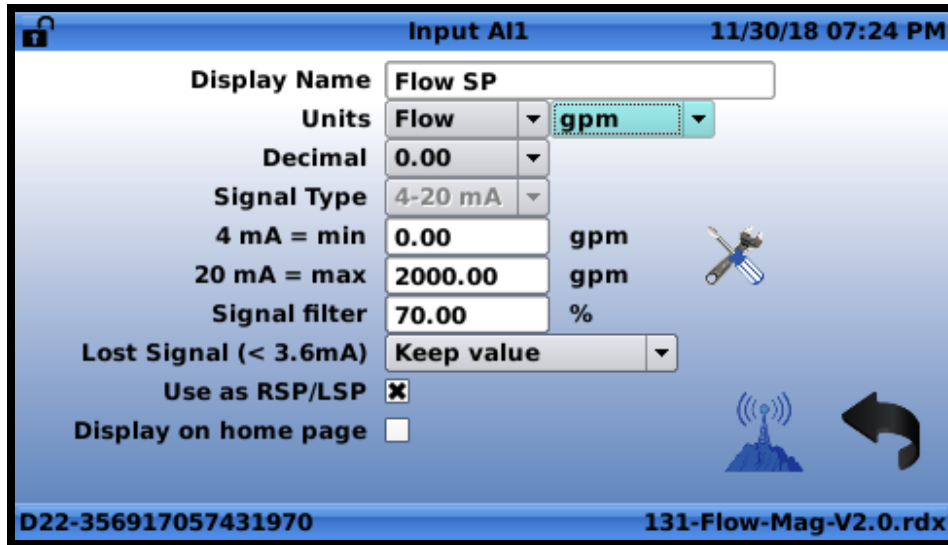

Figure 4.22
- Use the “Up” and “Down” buttons to highlight a drop down field. When the field is highlighted, the background color will turn from light gray to light blue as shown in **FIGURE 4.22**: